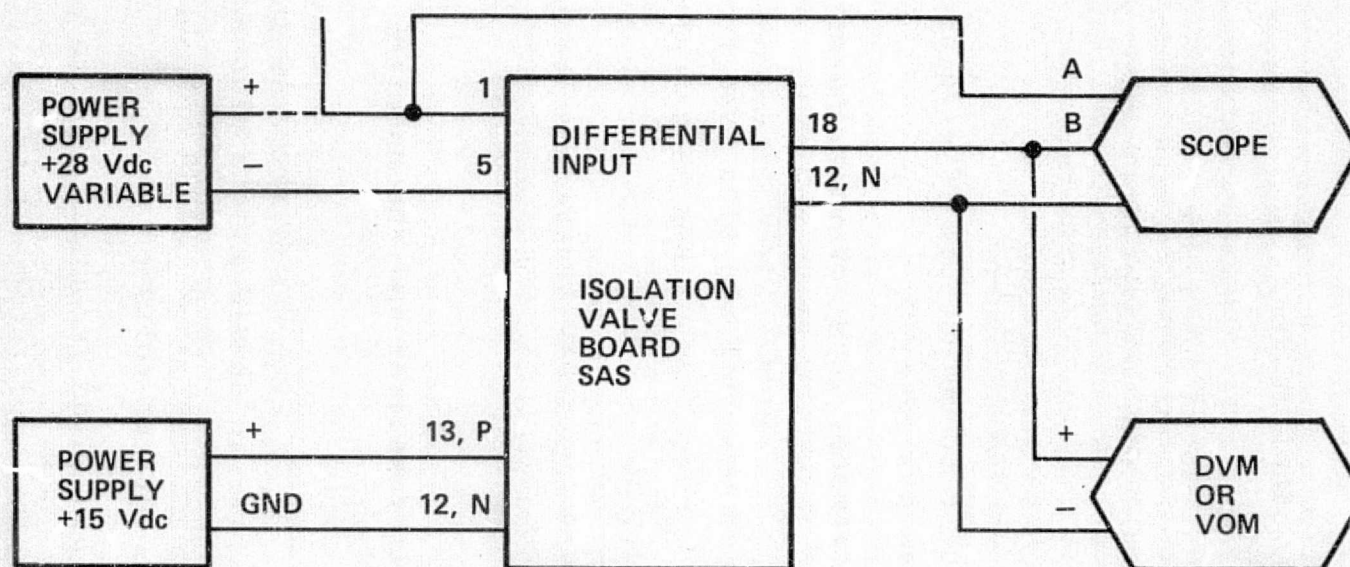

Figure 1. - Test setup.
1. Connect the following as shown in figure 1.